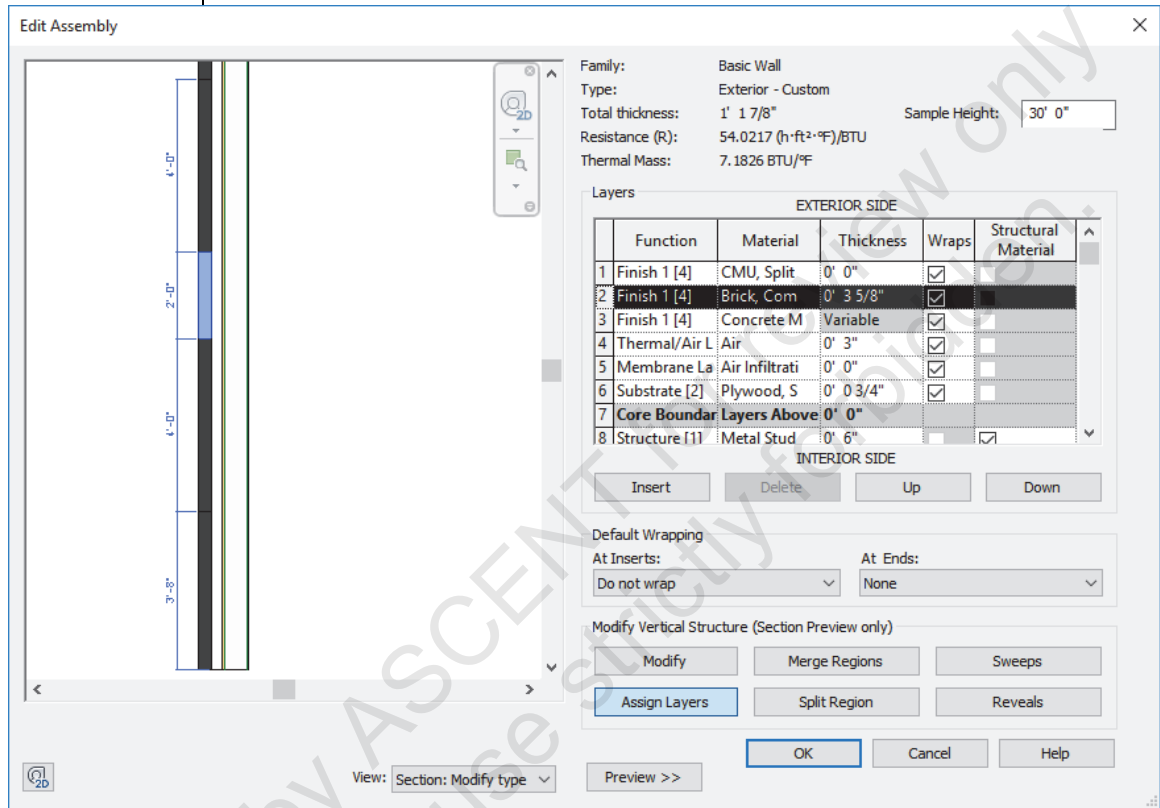

Figure 1–43
- In the preview, select the exterior edge of the **2'-0"** part of the exterior wall where you want the finish applied. The section should highlight as shown in Figure 1–43.